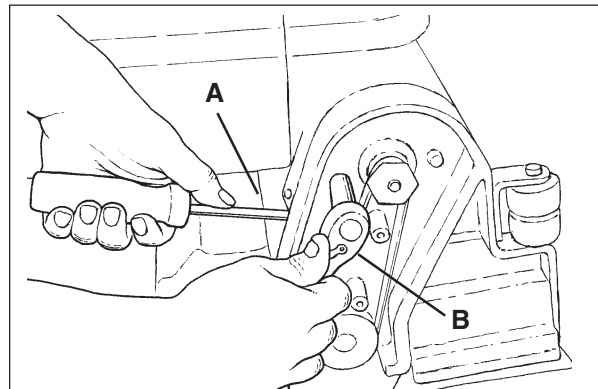

Figure 33
- c. Use a small prybar or large screwdriver to pry the motor upward to achieve correct belt tension. Pry on the motor close to where the motor contacts the brush head casting (see figure 33, A).
- d. Hold tension and tighten 2 screws (see figure 33, B).